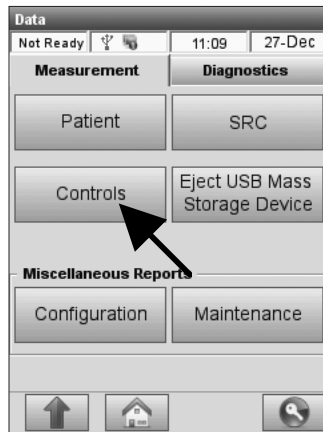

Fig. 6-10 Select Controls
2. On the **<Measurement>** tab, select **<Controls>** (Fig. 6-10).